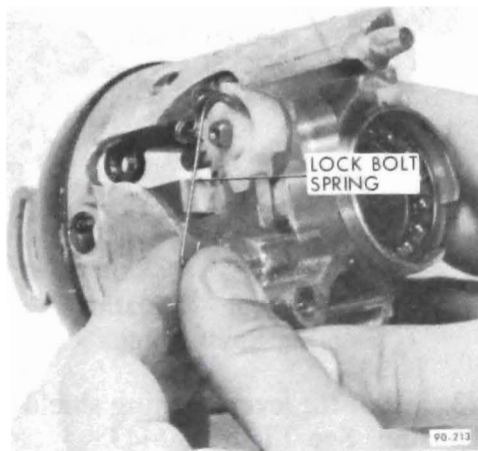

Figure 90-144 - Removing Lock Bolt Spring
2. Remove lock bolt spring by removing spring retaining screw and moving spring clockwise to remove from bolt. See Figure 90-144.
7. Install bolt spring and spring retaining screw. Torque to 35 pound inch. See Figure 90-144.